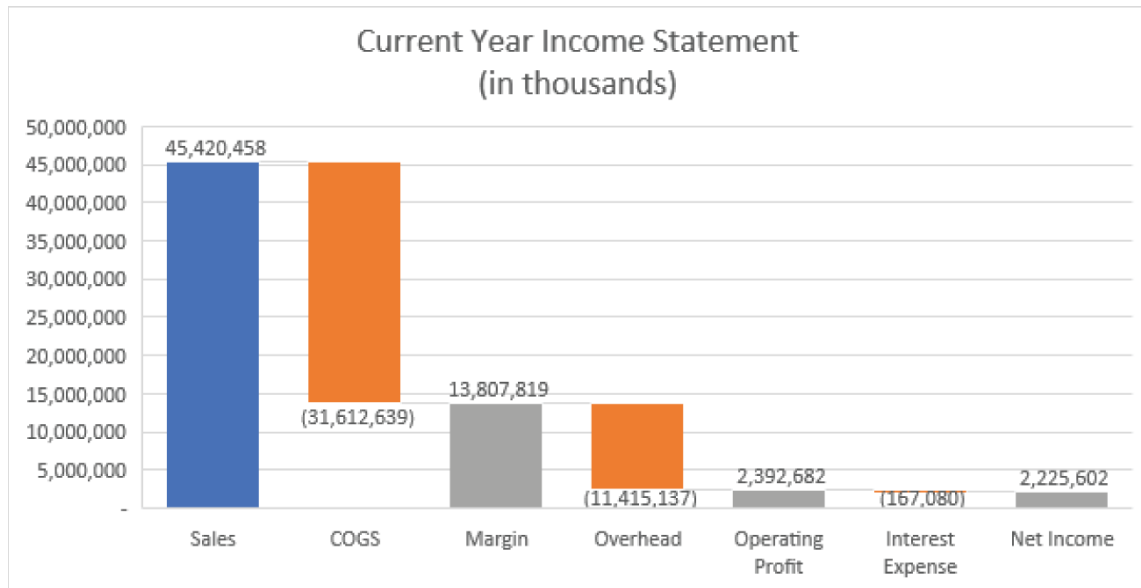

Figure 2.50: Set the totals data points.
5. Repeat that process for the Operating Profit and Net Income data points. Figure 2.50 shows the chart after checking Set As Total for those data points.